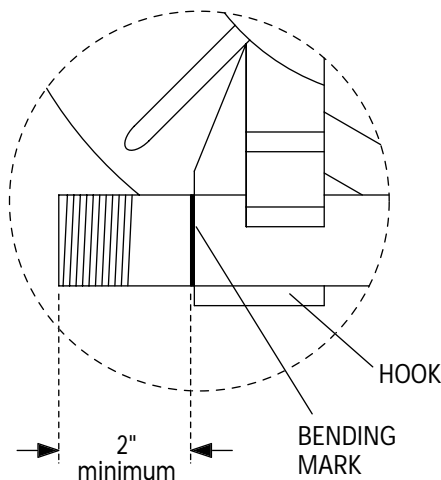

Figure 12
2. Mark the conduit to the desired length. Note that a 2" minimum dimension is required to eliminate flattening the end of the conduit. See Figure 12.
4. After marking the conduit, place it into the bender. The conduit should slide over the support rollers and through the shoe groove and into the hook. The bending mark should be at the front ( OUTSIDE ) edge of the hook. See Figure 12.